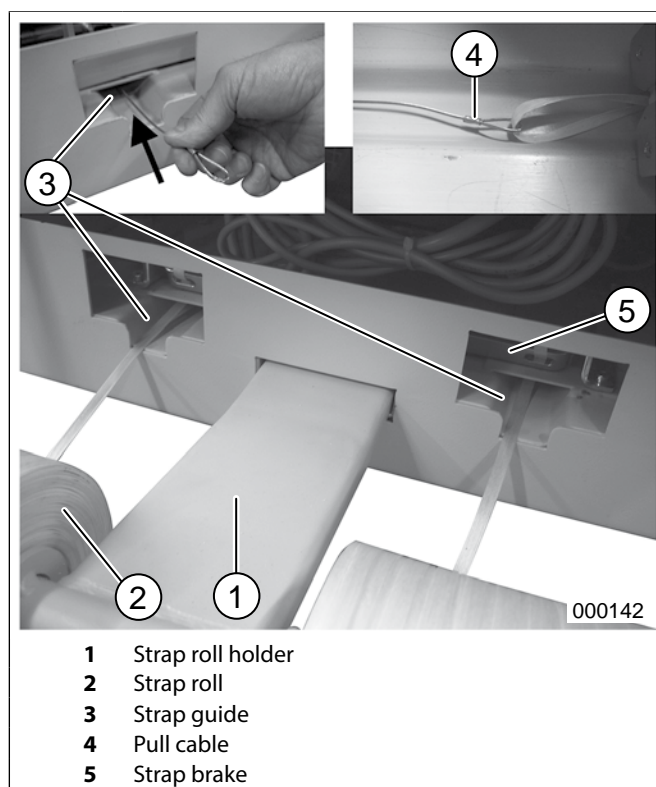

fig. 22 Replacing the strap rolls
4. Insert the strap rolls (fig. 22/2) in to the strap roll holder (fig. 22/1) as shown, with the strap ends pointing down.
5. Secure the strap end to the loop on the included pull cable (fig. 22/4) and feed the other end of the pull cable (fig. 22/4) through the opening at the strap brake (fig. 22/5) and into the strap guide (fig. 22/3). The strap can now be pulled through the strap guide with the pull cable, until it is visible within the baling chamber.
7. Insert both straps as described under „Inserting straps for a new bale“ p. 25 and close the strap brake (fig. 22/5).